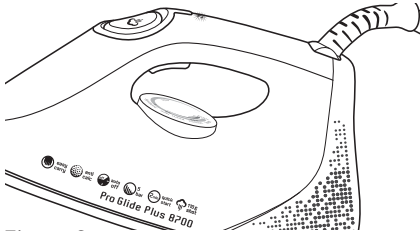

Figure 2
3. Turn the temperature dial on the iron to the desired setting (set the temperature to Silk or above when using steam). The thermostat light (as shown in Fig 2) will illuminate AMBER to indicate that the iron is heating. It will go out once the iron has reached the selected temperature.